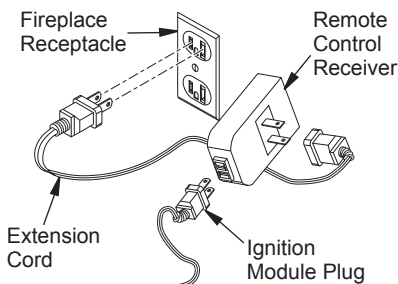

Figure 46 - Connecting WRC Remote Control Electronic
2. The WRC model receiver does not require a battery. To install receiver plug short extension cord into fireplace receptacle. Plug receiver unit into extension cord. Plug ignition module plug into receiver unit (see Figure 46).